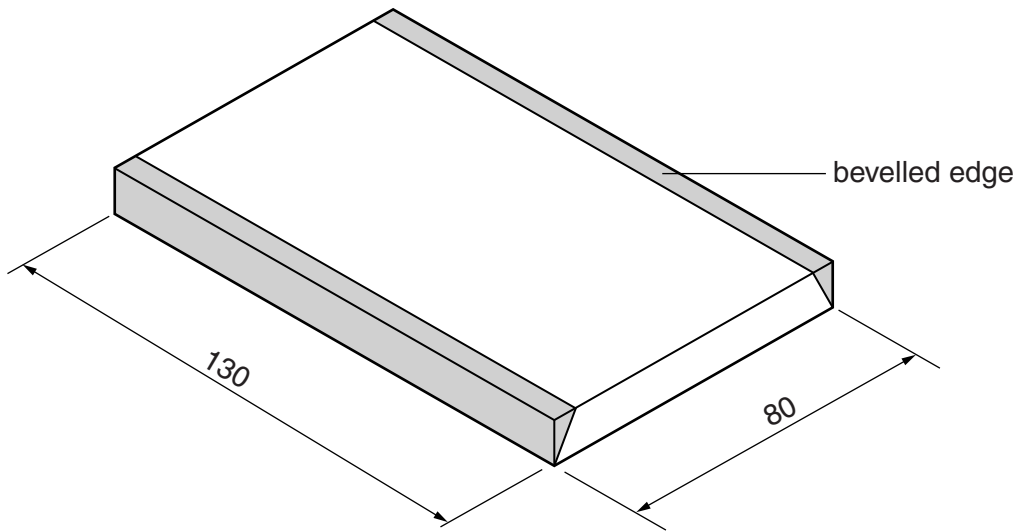

Fig. 14
(g) Fig. 14 shows the hardwood used to make the base for the desk tidy. The base will have bevelled edges. Two bevelled edges are shown marked out.
- (iii) Use sketches and notes to show how the **two** bevelled edges shown in Fig. 14 could be produced.